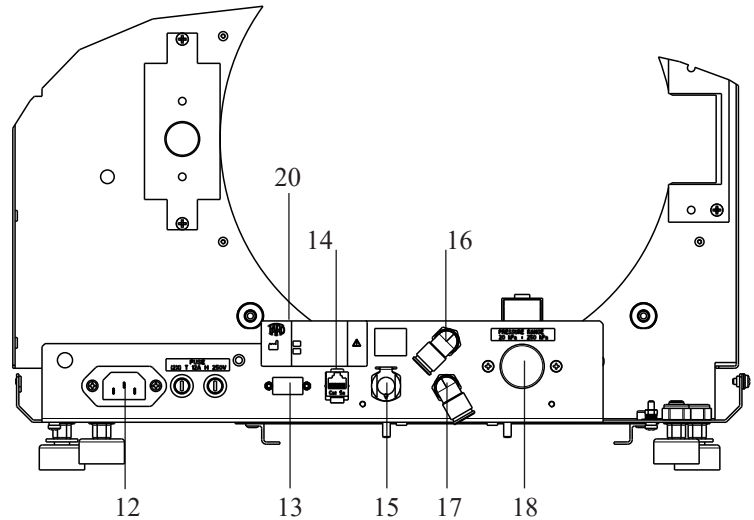

**Fig. 1**
**Manual:** as an alternative, the device is equipped with a manual emergency filling system at the FRONT (9 fig. 1).